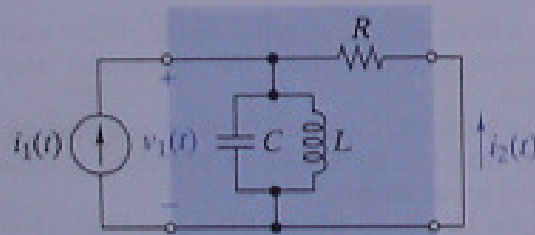

FIGURE P11-29
- 11-29 The circuit in Figure P11-29 is in the steady state with $i_1(t) = 5 \cos 1000t$ mA, $R = 1 \text{ k}\Omega$, $L = 2 \text{ H}$, and $C = 500 \text{ nF}$. Find $i_{2ss}(t)$. Repeat with $i_1(t) = 10 \cos 2000t$ mA.